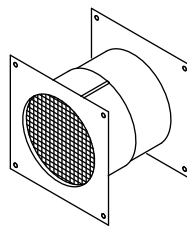

Figure 12
Step 6. Ensure CAS system has access to outside air. The CAS system needs to have access to outside air for the stove to use. If the chimney is unenclosed on the outside of the home, no steps are needed to provide air. The outside portion of the CAS Wall Thimble has air-inlet openings to provide air to the stove. However, if the chimney is enclosed in a chase, the chase needs to have ventilation to supply air for the CAS system. This opening can be provided by the Chase Air Intake with Rodent Guard (**Fig 12**) or by a small opening in the chase that provides a minimum of 12 square inches of free area (opening can be louvered or covered with mesh screen).